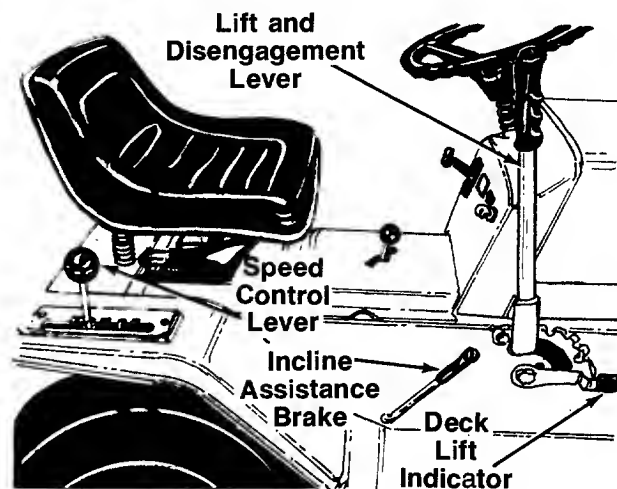

FIGURE 9.
The speed control lever allows you to regulate the ground speed of the lawn tractor. See figure 9. To select the ground speed, depress clutch pedal. Push speed control lever outward and move backward to slow lawn tractor, move forward to increase speed. When desired speed has been obtained, release lever in that position. Whenever clutch is engaged, unit will automatically go to the pre-set speed.
When stopping on a hill, hold the incline assistance brake lever back while you release the clutch-brake pedal until the lawn tractor begins to move, then release the lever. This lever permits smoother starts and clutch engagement by holding the tractor during the brake release/clutch engagement operation. See figure 9.
The lift and disengagement lever is used to raise and lower the cutting deck. Pulling it all the way back and locking it disengages the blades. The lift and disengagement lever **must** be in the disengaged position when starting the engine, when shifting into reverse or if the operator leaves the seat. See figure 9.
The deck lift indicator marks the position being used for the lift lever. Select the lift lever position desired, press the indicator lever outward, move it to the position immediately below the lift lever and release the indicator lever. See figure 9.
3. Place the lift and disengagement lever in the **DISENGAGED** position. See figure 9.